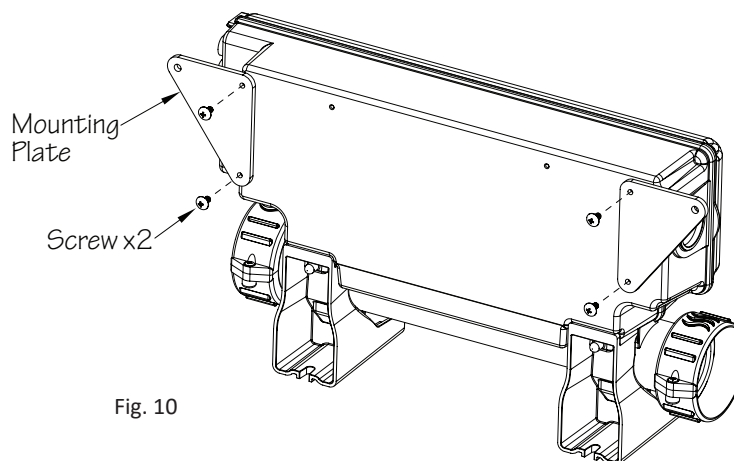

Fig. 10
10. Remove the two Mounting Plates from the back of the controller by removing the screws. Attach the plates to the replacement controller (Fig. 10).